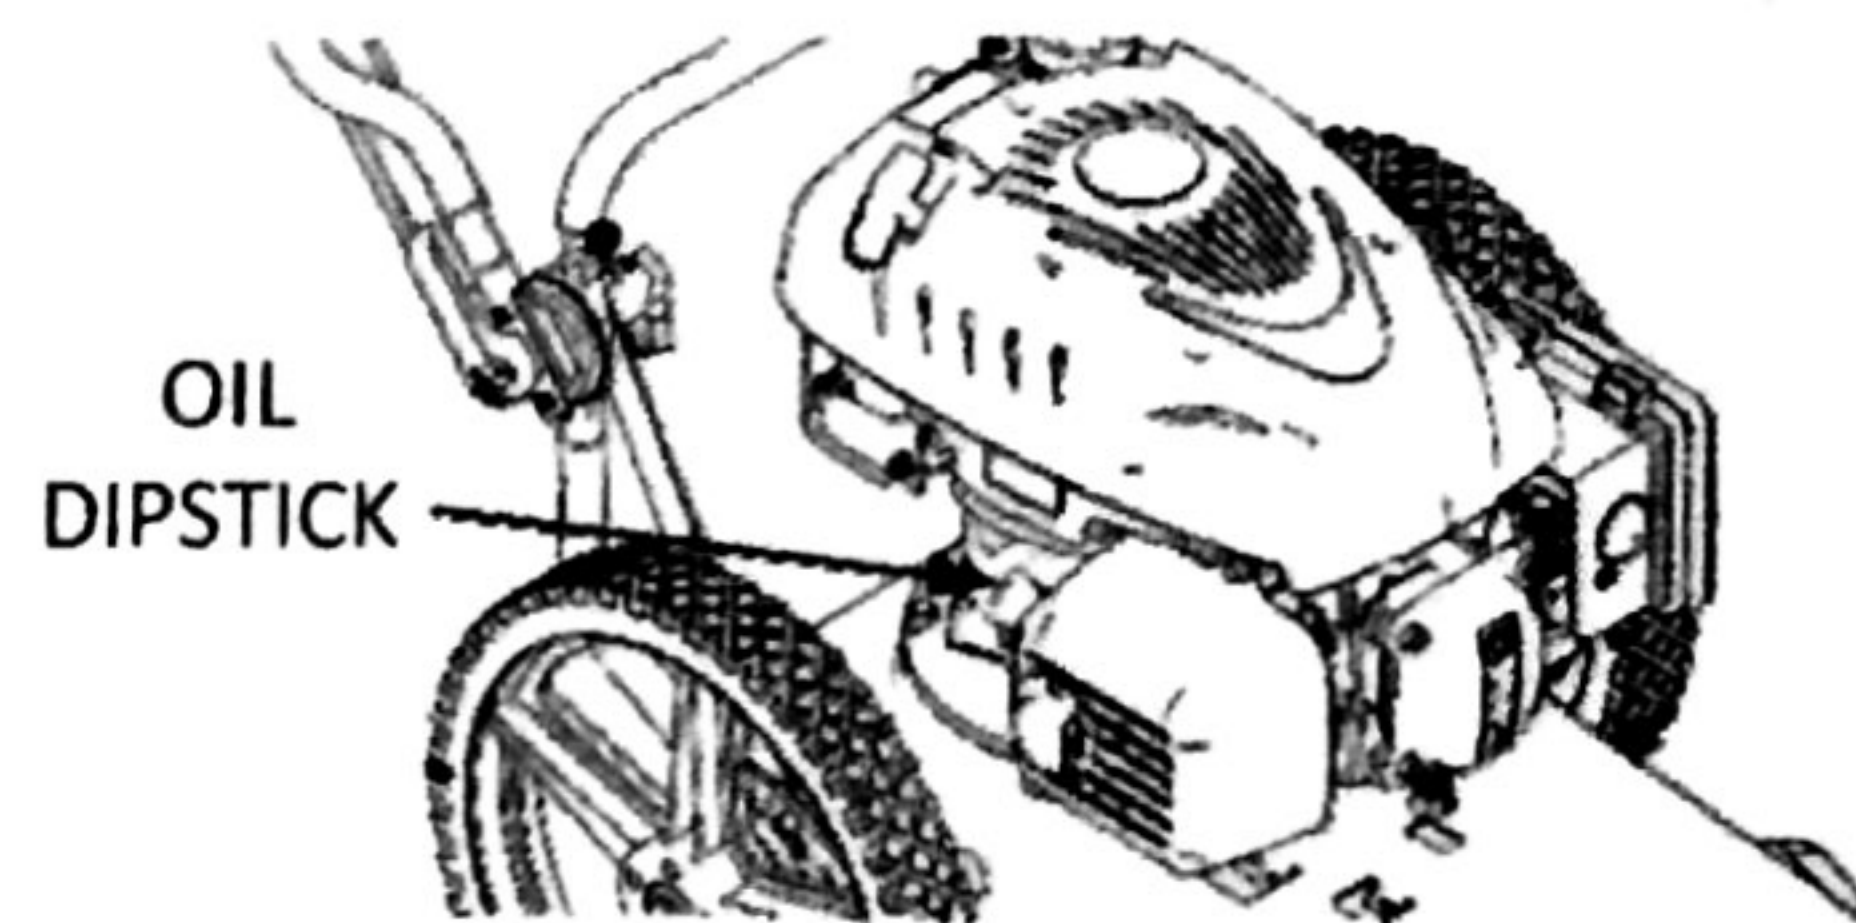

FIGURE 7: Oil Dipstick Location.
2. Remove dipstick and carefully tip the engine toward the dipstick side to empty oil from oil fill area. Empty oil into a suitable oil container and dispose of oil properly. SEE FIGURE 7